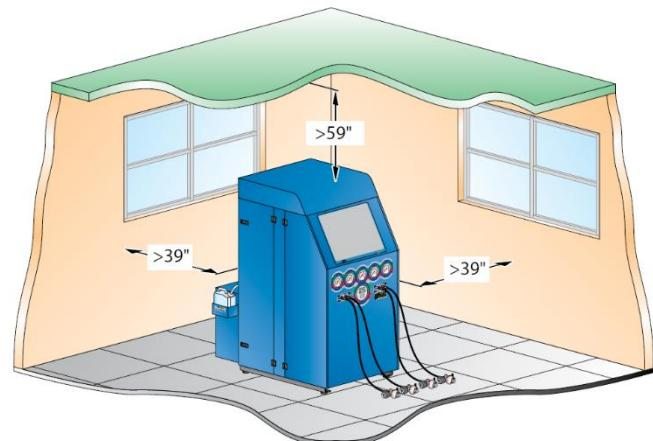

Figure 14. Illustration of proper positioning.
- Place the system in a permanent location allowing a minimum spacing of 39 inches (1 m) from adjacent walls and inches 59 inches (1.5 m) from ceiling (Figure 14).